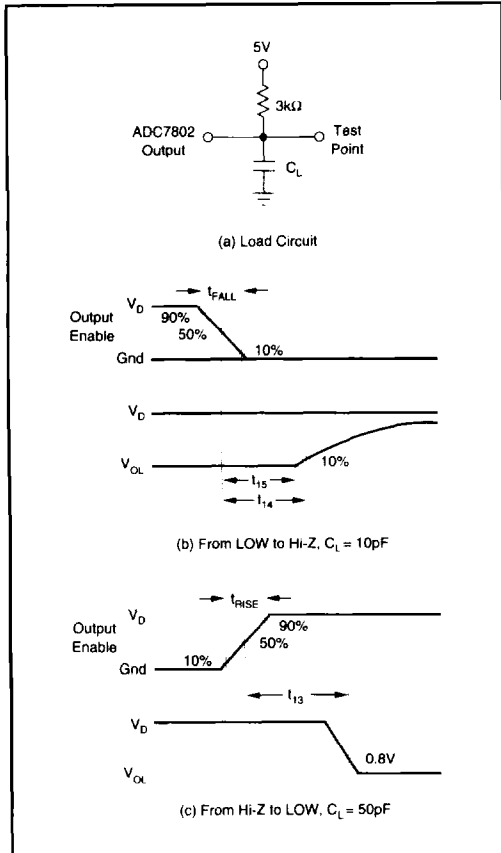

FIGURE 7. Measuring Active LOW to/from Hi-Z State.
NOTES: (1) All input control signals are specified with $t_{\text{RISE}} = t_{\text{FALL}} = 20\text{ns}$ (10% to 90% of 5V) and timed from a voltage level of 1.6V. Data is timed from V_{IH} , V_{IL} , V_{OH} or V_{OL} . (2) The internal RD pulse is performed by a NOR wiring of $\overline{\text{CS}}$ and RD. The internal $\overline{\text{WR}}$ pulse is performed by a NOR wiring of $\overline{\text{CS}}$ and $\overline{\text{WR}}$. (3) Figures 7 and 8 show the measurement circuits and pulse diagrams for testing transitions to and from Hi-Z states.